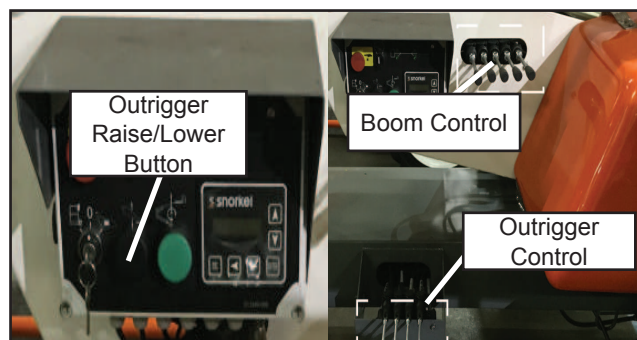

Figure 2-21 – Outrigger Operation
4. Raise the outriggers by simultaneously pressing down on the 'Outrigger raise/lower button' and using the appropriate control levers, two at a time until the road wheels are in contact with the ground (refer to Figure 2-21).